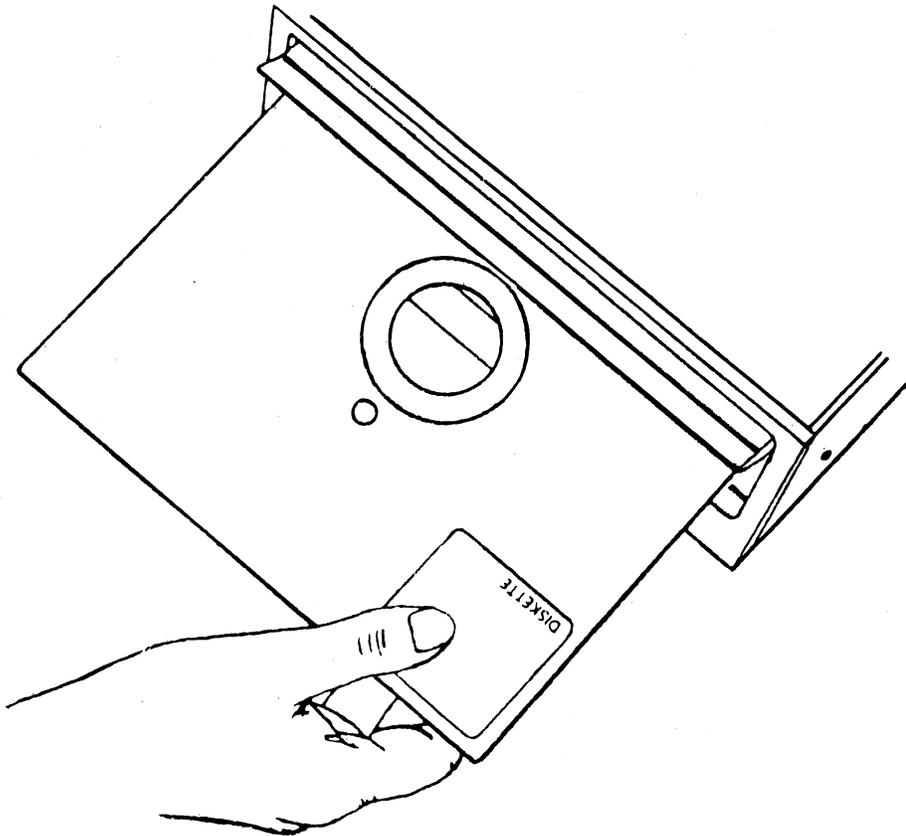

Fig. 5—Inserting the Diskette
- (b) Grasp the diskette between the thumb and index finger. The label should be face up and toward the operator (Fig. 5).